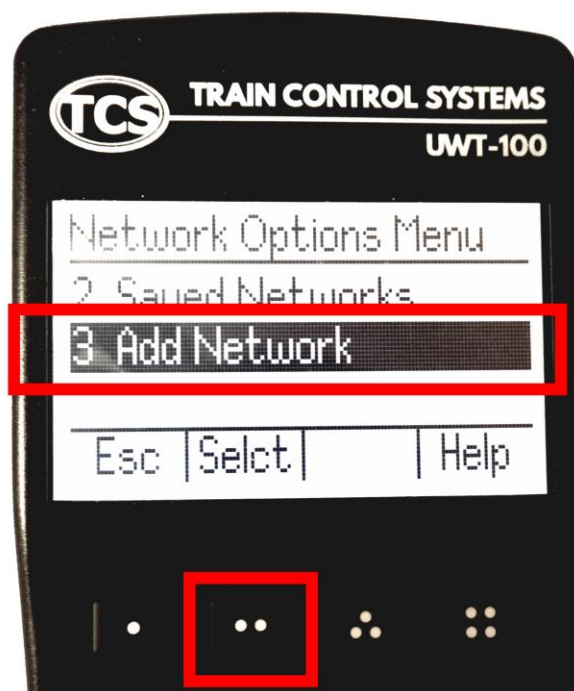

Figure 21 Select the Add Network option
- (3) Select option 3, Add Network as Figure 21